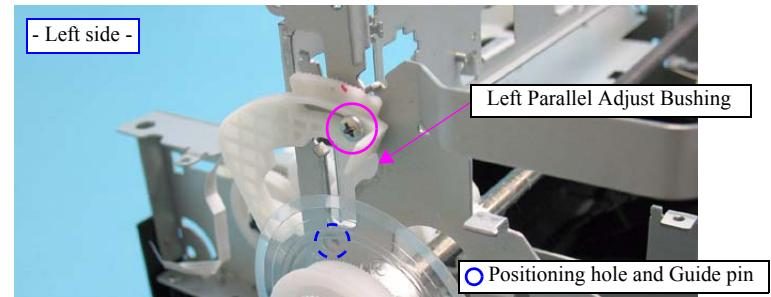

Figure 4-231. Removing the PF Roller Assy (1)
- When installing the Left Parallel Adjust Bushing, insert its positioning hole over the guide pin on the Main Frame as shown in *Figure.4-231*.